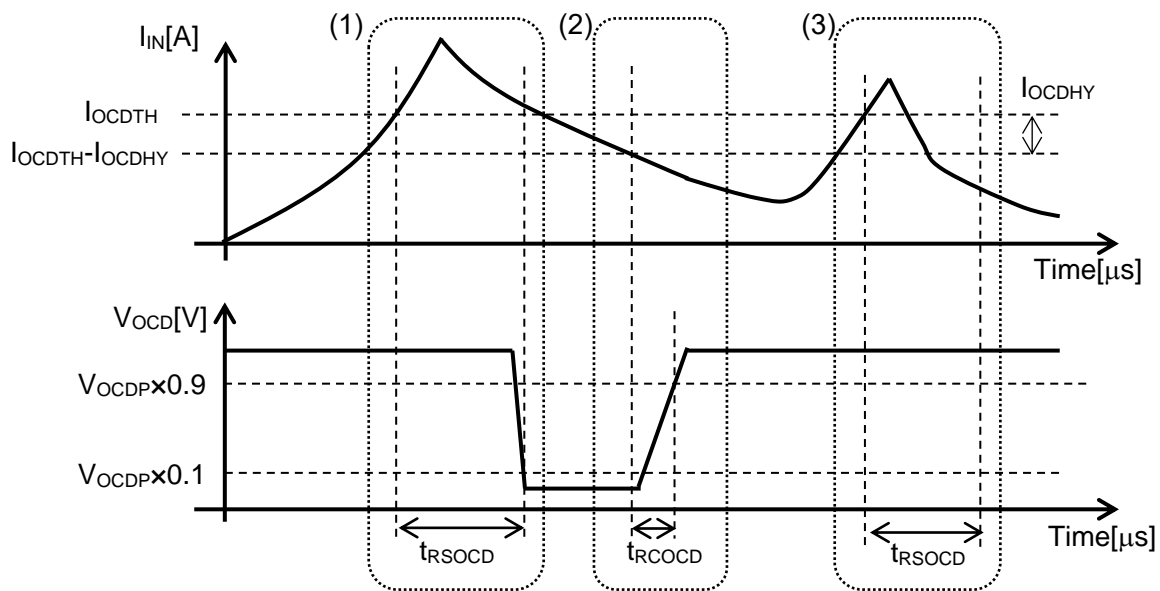

Figure 6. Overcurrent Detection Function of CZ-3AG2
10.4. Overcurrent Detection Function is operated as below. (See figure 6.)